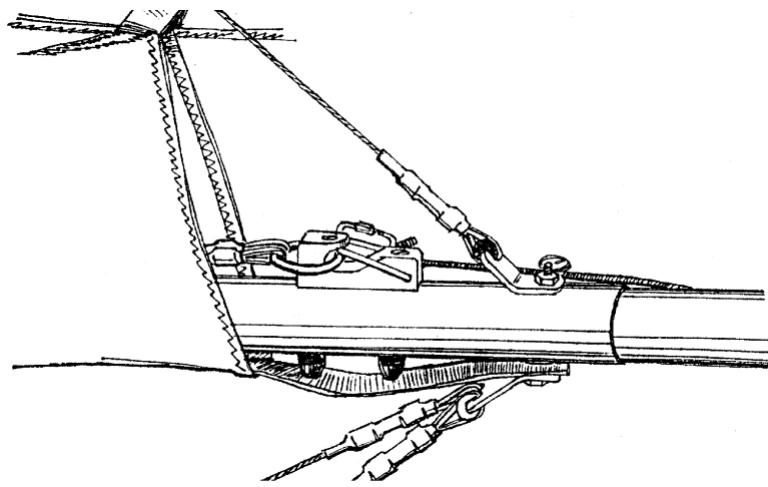

Fig. 37
2.4.7. Check that the top rear wire is going properly through the tape loop on the sail and check that this wire, the keel mount webbing and bottom rear wires are safely secured to the N2 keel tube using the bolt, the nut and the safety ring (Fig. 37).
Check that crossbar tension wires are secured in the lock on the keel tube and that reed spring closes metal ring in the hook (See Fig. 37). Kingpost tensioning wires must go through the kingpost channel and must not be twisted. Maillon with the rubber rope attached must be closed.